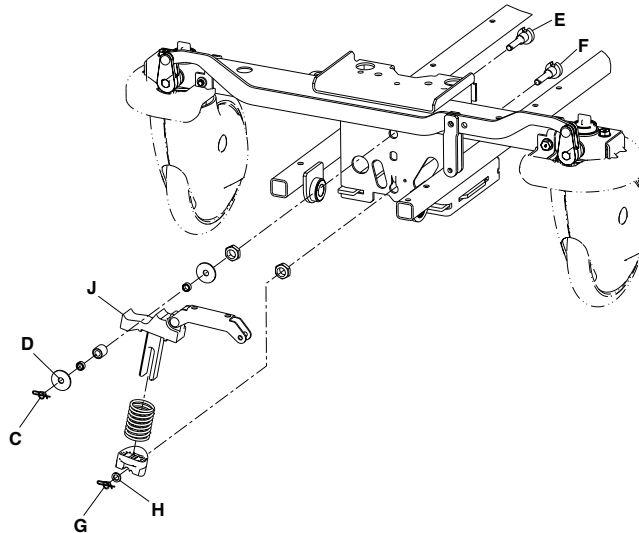

Figure 5 – Brake cam and link replacement
4. Using needle nose pliers, remove the rue ring cotter (C) and washer (D) from the bearing pivot support (E) (Figure 5).